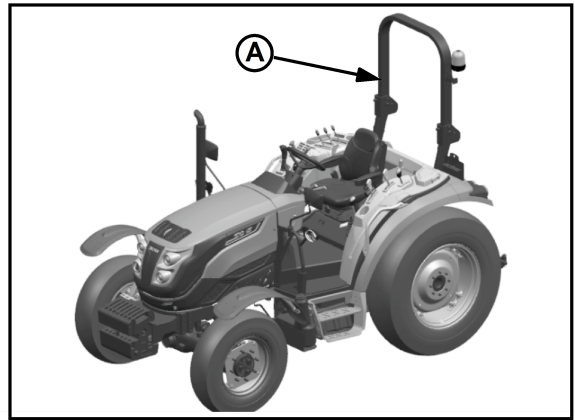

Fig 2.14
A Safety frame (A) and seat belt is fitted as standard equipment to the platform tractor at the time of factory assembly. If the safety frame was deleted by the original purchaser or has been removed, it is recommended that you equip your tractor with a Safety frame and a seat belt. Safety frames are effective in reducing injuries during overturn accidents See fig.2.14